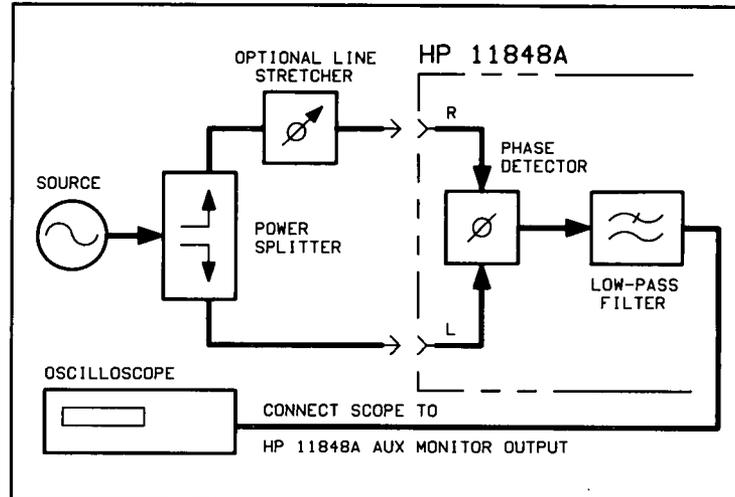

Figure 4-9. Connection to Optional Oscilloscope for Determining Voltage Peaks
1. Connect circuit as per Figure 4-9, and tighten all connections.